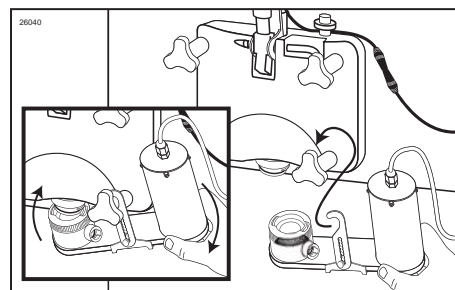

Figure 16
1. Hang the Suspension Bracket with the Injector Assembly on one of the lower freezer door posts. (See Figure 16.)